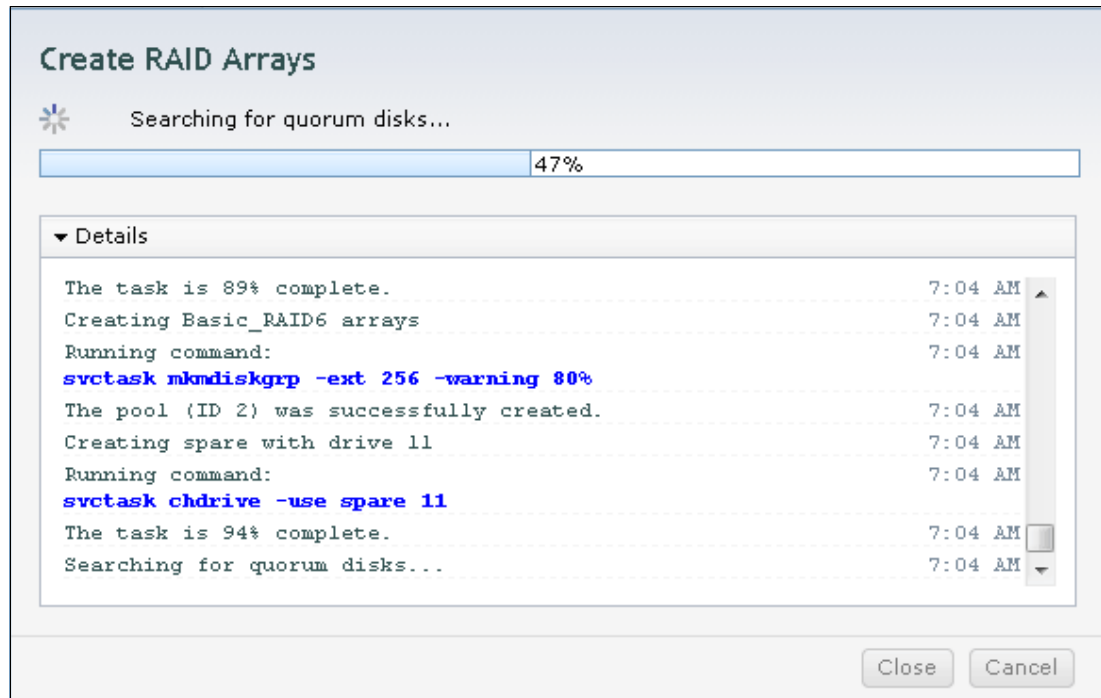

Figure 2-17 Preset RAID configuration
5. When an array is created, the array members are synchronized with each other by a background initialization process, as shown in Figure 2-17.